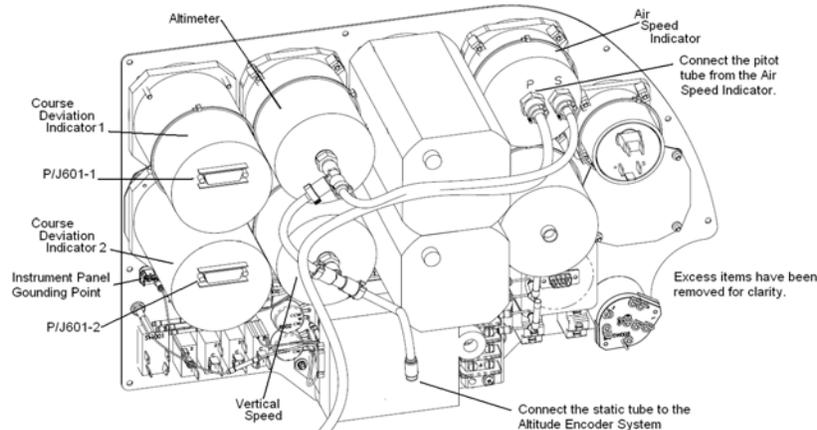

Figure 34-17 Rear of Instrument Panel Showing the Locations for Connecting the Pitot and Static Lines
9. If the instrument panel has one or two Course Deviation Indicators (CDI), connect the electrical connectors on the back of the CDI. (P/J106-1 and/or P/J106-2) See Figure 34-17 for the location of the connectors P/J106-1 and/or P/J106-2. Connect the ground shields from the CDI cables to the grounding point on the instrument panel.